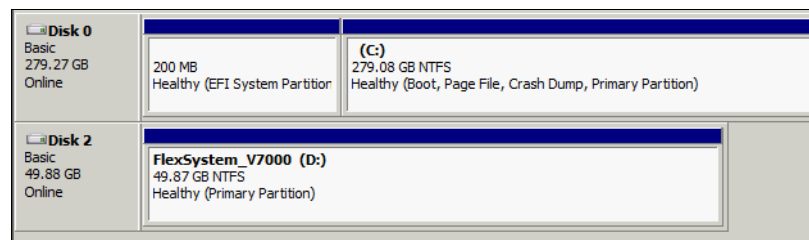

Figure 12-9 Volume is ready to use
7. Follow the wizard and the volume is ready to use from your Windows host (Figure 12-9).